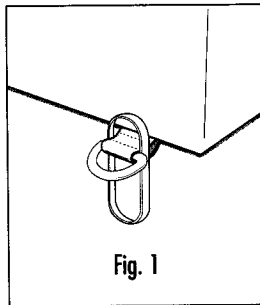

Fig. 1
- Fig. 1 - Place the new rubber over both the sewn in tape loop and the 'D' ring.